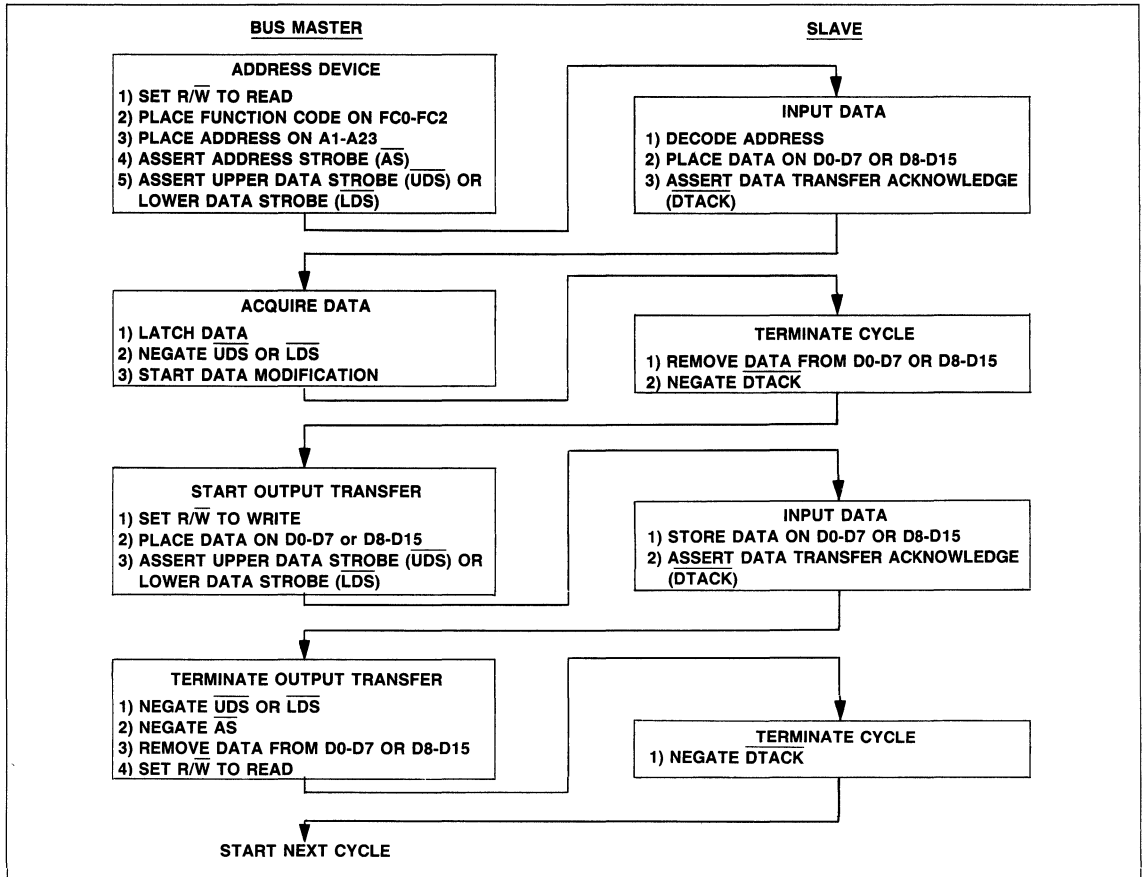
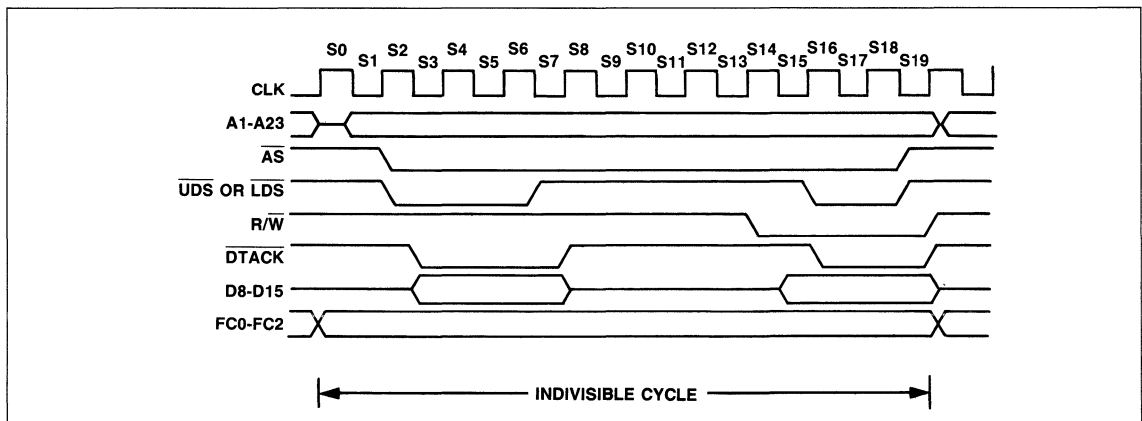

Figure 11. Read-Modify-Write Cycle Flow Chart
Figure 12. Read-Modify-Write Cycle Timing Diagram
**Read-Modify-Write Cycle.** The read-modify-write cycle performs a read, modifies the data in the arithmetic-logic unit, and writes the data back to the same address. In the R68000 this cycle is indivisible in that the address strobe is asserted throughout the entire cycle. The test and set (TAS) instruction uses this cycle to provide meaningful communication between processors in a multiple processor environment. TAS is the only instruction that uses the read-modify-write cycles. Since the test and set instruction only operates on bytes, all read-modify-write cycles are byte operations. A read-modify-write cycle flow chart is given in Figure 11 and a timing diagram is given in Figure 12.